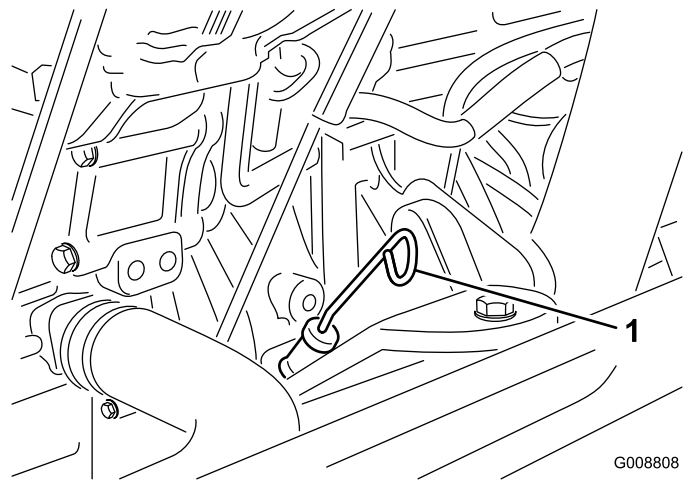

Figure 8
3. Remove the dipstick, wipe it clean, install the dipstick into the tube, and pull it out again. The oil level should be up to the FULL mark (Figure 8).